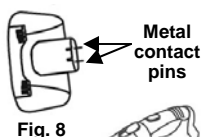
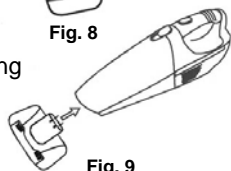

Fig. 8
Fig. 9
2. Firmly insert the motorized brush (Fig. 8) into the air-intake nozzle of the dust cup container ensuring that the contact pins are engaged in the connector slots of the unit. (Fig. 9)